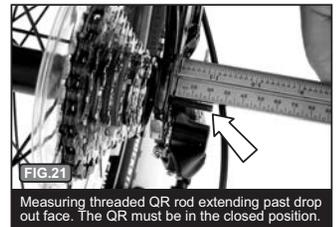

FIG. 21
**C)** Check for a minimum of 3/8 inch (10mm) and maximum 3/4 inch (19mm) of threaded rod extending past the dropout face, Fig. 21. **IMPORTANT:** If the amount of rod extending past the dropout face is less than 10mm, you will need a longer quick release. Please consult the BOB Quick Release Model table at the end of this manual to find the correct QR for your bike. If the amount of rod is greater than 19mm, see the next section: "TRIMMING THE BOB QR ROD". If you do not understand this section, contact your local bike dealer or call BOB for help.